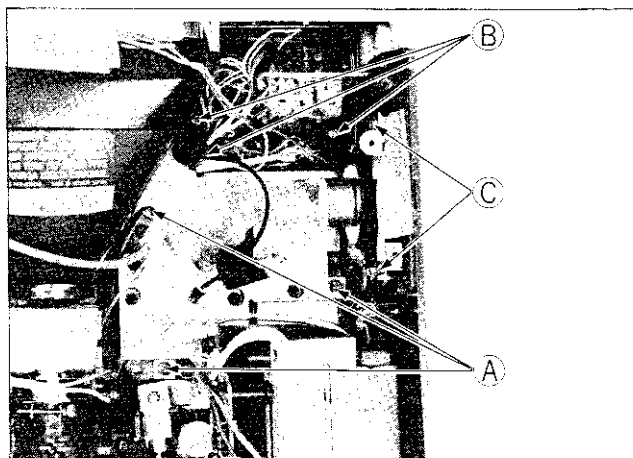

Fig. 2-6
Unfasten the three screws marked (A) in Fig. 2-6 and then remove the PAL/SECAM P.C. Board.
2. Remove both the speaker (see Fig. 2-6 (C)) and the anode cap.
3. Unfasten the three screws marked (B) in Fig. 2-6.